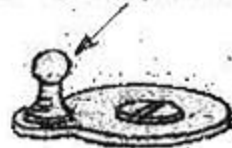

FIG 4
- 7° Advance mechanism completely locked (fig. 4). The little ball-pin of the rewind winch was derivated and locked the advanced mechanism.